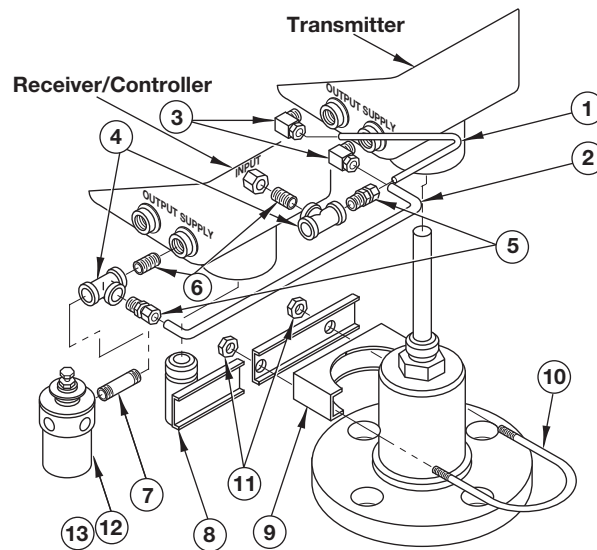

Figure 43
3.3.9.1 Transmitter Mounted Receiver Controller Replacement Assemblies (See Figure 43)